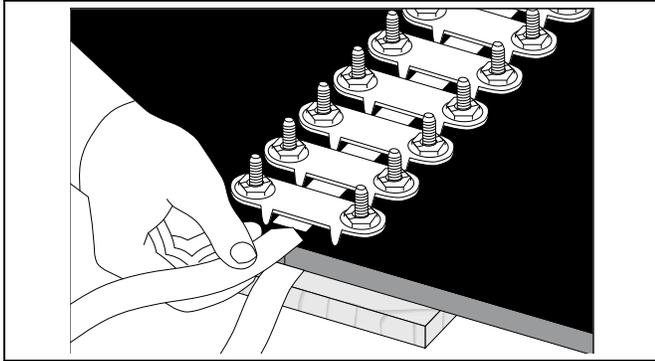

Figure 4K
- Before tightening fasteners, cut a piece of Flexco-Loc Tape three (3) times the width of the belt plus 6" and cut a point on one end. Thread pointed tape between fastener teeth and top of belt, back through the bottom plates, and across the top again. This will help eliminate belt ripple and keep moisture and fine particles from deteriorating the end of the belt and increase belt life. (See Figure 4K.)